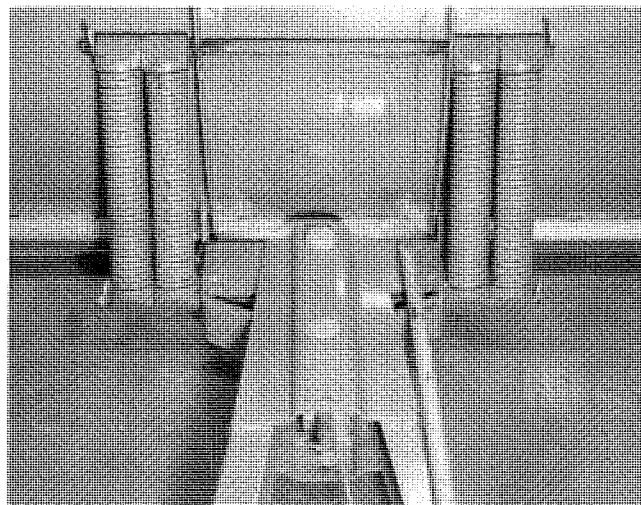

FIG. 2
Referring to Fig. 2, insert Rod, item 13, through the rear hole of the sector. On each rod end install 2 springs, item 11, and secure each end with Hairpin Cotters, item 14.